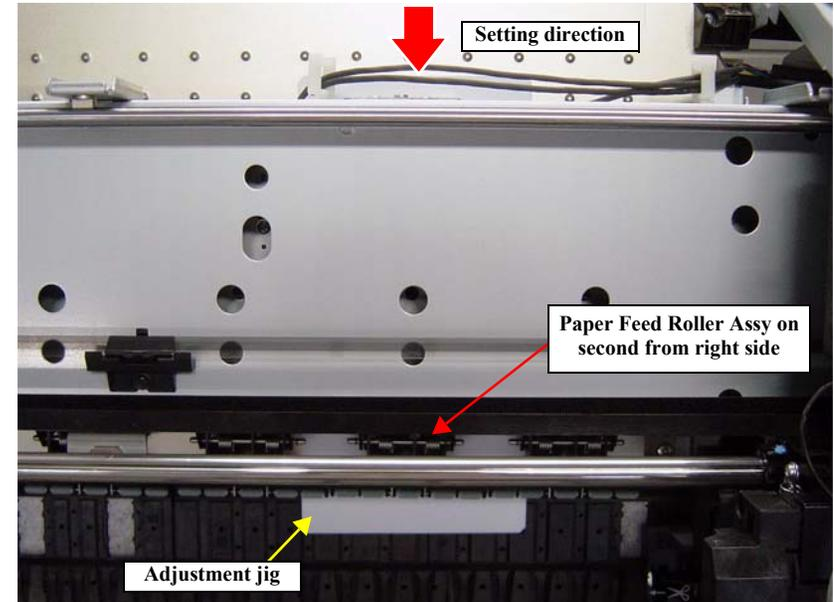

Figure 5-69. Position for the thickness tool (0.4/0.8/0.9 in thickness)
9. Insert the adjustment jig (0.4) from the paper insertion opening, and set it to the position shown in Figure 5-69, then press the [Paper Set] button.
15. Insert the adjustment jig (0.8) from the paper insertion opening, and set it to the position shown in Figure 5-69, then press the [Paper Set] button.
18. Insert the adjustment jig (0.9) from the paper insertion opening, and set it to the position shown in Figure 5-69, then press the [Paper Set] button.